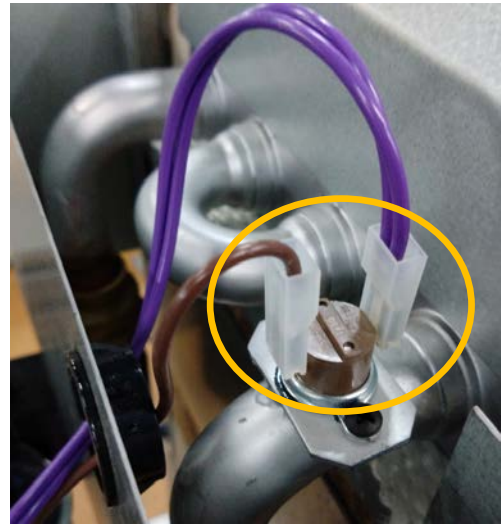

Figure 20
15. Disconnect the connectors from the 55°C over-temperature switch. Remove the wires out from the heat exchanger cover through the panel bush. Refer Figure 20.